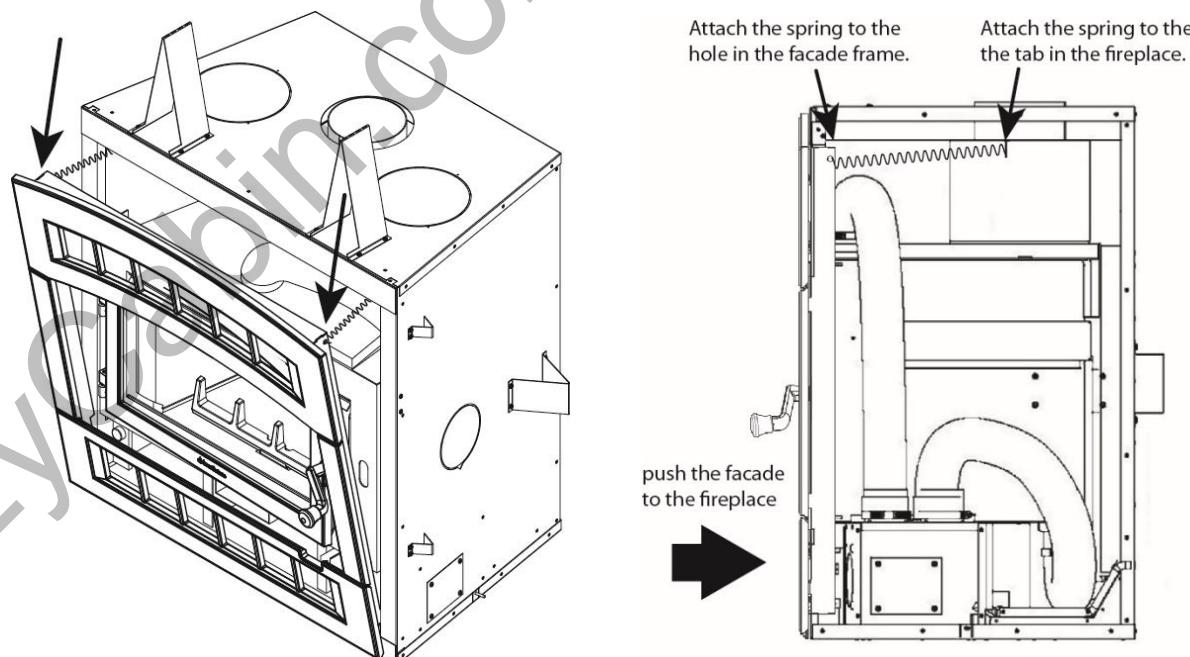

Figure 26
Attach the wooden knob to the handle using the Shoulder screw. Tighten the screw using the 5/32 hex wrench. (Figure 26)
3. Firmly push the facade to the fireplace to secure the bottom. (Figure 26)